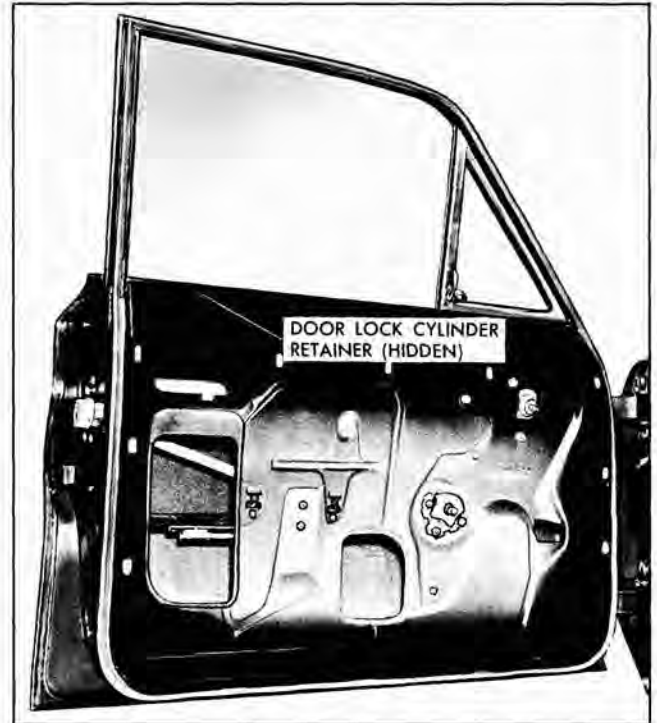

Fig. 13-23 Door Lock Cylinder Attachment
2. With a suitable tool, through inner panel access hole slide lock cylinder retaining clip forward sufficiently to allow removal of cylinder, then remove cylinder and gasket (Fig. 13-23).